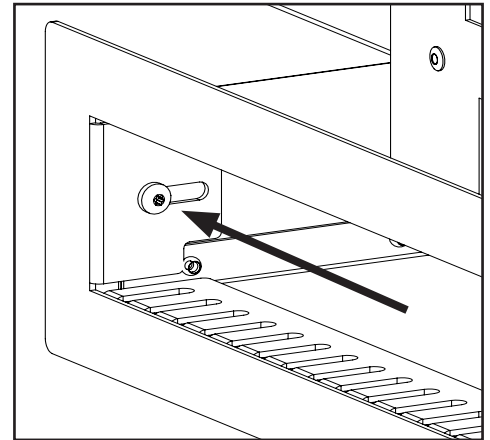

Figure 19. Outlet Trim Bezel Screw
Step 2: Using a T20 screwdriver, remove the screw on each side of the CSS outlet retaining the Outlet Trim Bezel and remove the Bezel (Figure 19).